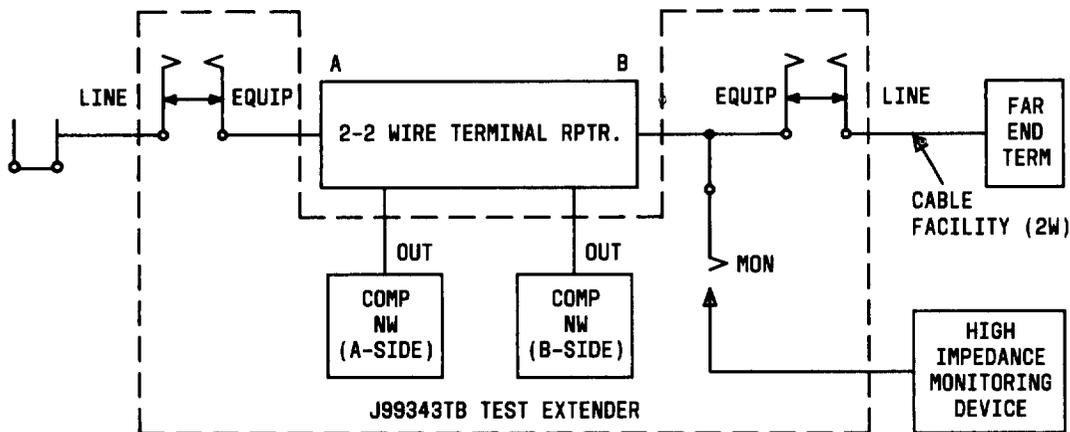

Fig. 12—Typical Circuit Configuration for Stability Margin Tests
11.04 It is assumed that the terminal repeater has been adjusted to its final settings and all options are set as specified on the CLR. Idle state stability tests are given in the following procedures and an example test set is shown in Fig. 12
7	Monitor repeater for singing using high impedance monitoring device with the following combination of terminations: <p>Note: With the monitoring device connected as shown in Fig. 12 no sound other than battery noise should be audible.</p>